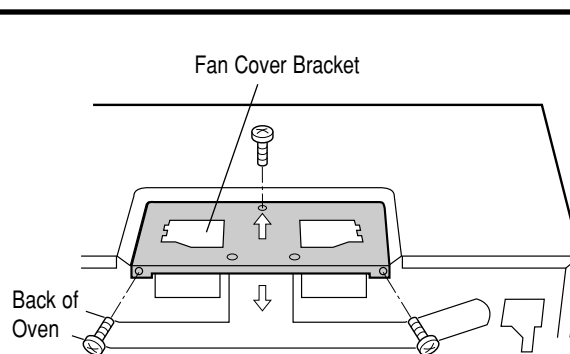

Figure 8
1. Remove and save 2 screws from back edge and 1 screw from the top center of Fan Cover Bracket. Remove Fan Cover Bracket by sliding it in the opposite direction of the arrow on the Fan Cover Bracket, as shown in Figure 8.
1. Remove and save 2 screws from back edge and 1 screw from the top center of the Fan Cover Bracket. Remove Fan Cover Bracket by sliding it in the opposite direction of the arrow on the Fan Cover Bracket as shown in Figure 8.